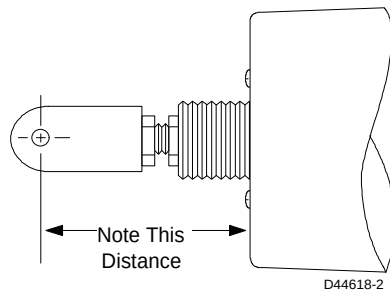

Figure 2: Connection Head and Actuator Face Distance
1. Measure and record the distance between the connection head and the actuator face as shown in Figure 2.